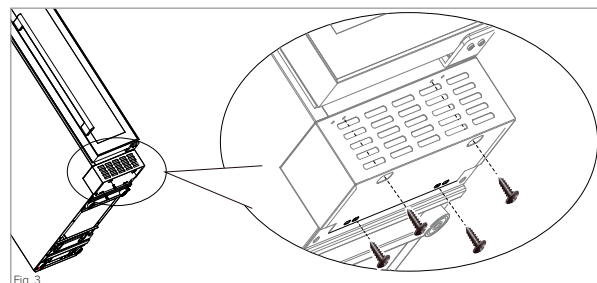

Fig. 3
- Using a magnetic-tipped screwdriver, insert two black fitting screws through the oval access holes (shown in Fig. 3) and tighten them.